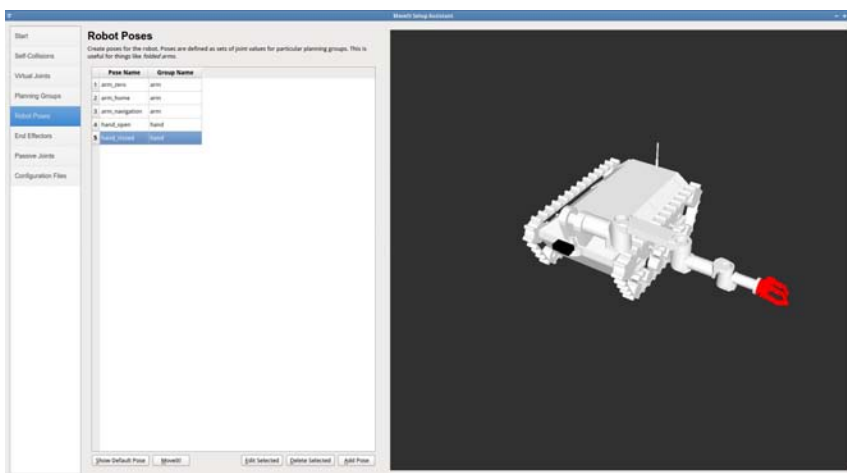

Figura 7.10.: MoveIt! Setup Assistant - Robot Poses - Hand Closed
- Mano cerrada (hand_closed, ver Figura 7.10).